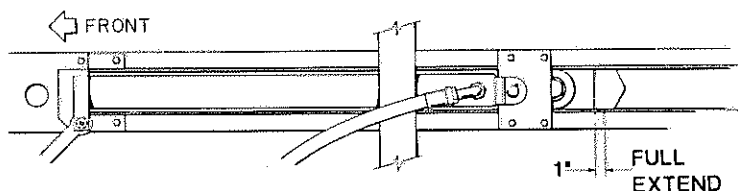

Fig. 43
5. Mark the location of the plunger fully extended. Also mark 1 inch forward of this position, see **Fig. 43**.